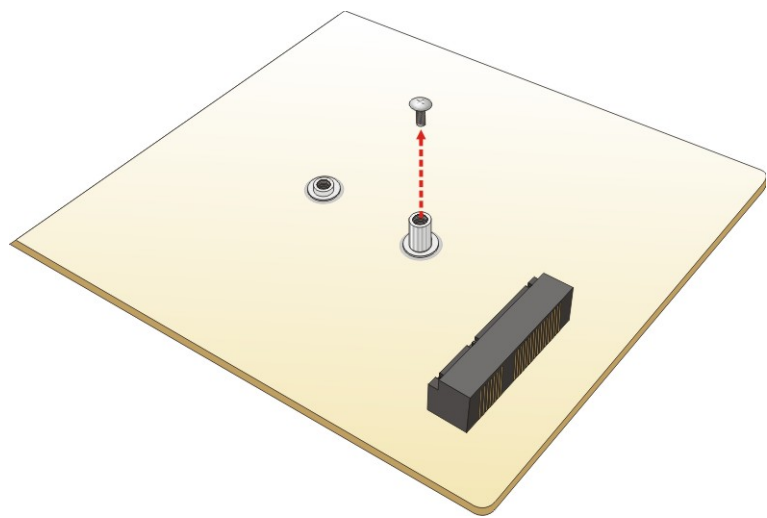

Figure 4-2: Removing the Retention Screw
- Step 2:** Remove the retention screw. Remove the retention screw as shown in Figure 4-2.